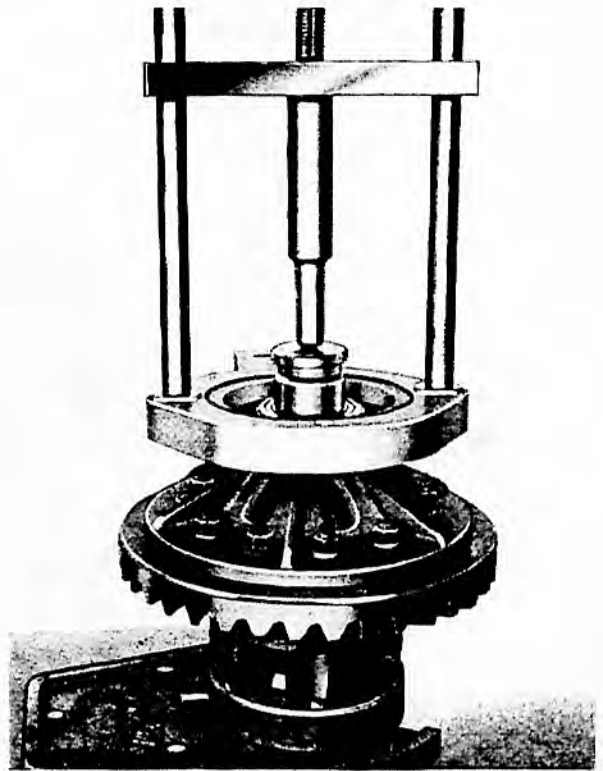

FIG. 7 REMOVING DIFFERENTIAL BEARING CONES
3. Remove differential bearing cones using Service Tool MF.200 with suitable adaptors as shown in Figs. 7 and 8.